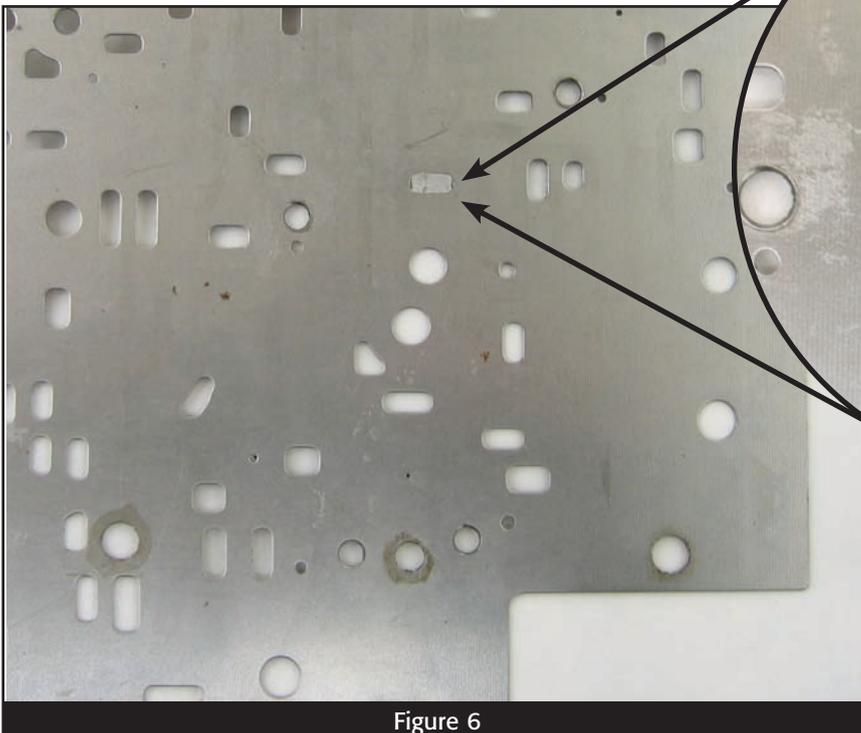

Figure 6
Next, plug hole 22b. This hole is very critical and must be totally sealed (figure 6). This hole is difficult to plug because it’s rectangular. To do this,
**This hole is very critical and must be totally sealed (figure 6).**